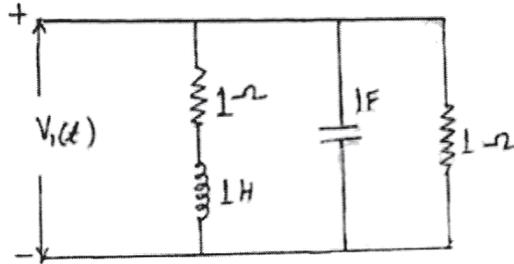

Fig. 11
- b) Determine Driving Point Admittance function  $Y_{11}(s)$  for the network in Fig. 11 and hence draw pole zero plot of  $Y_{11}(s)$ . [6]